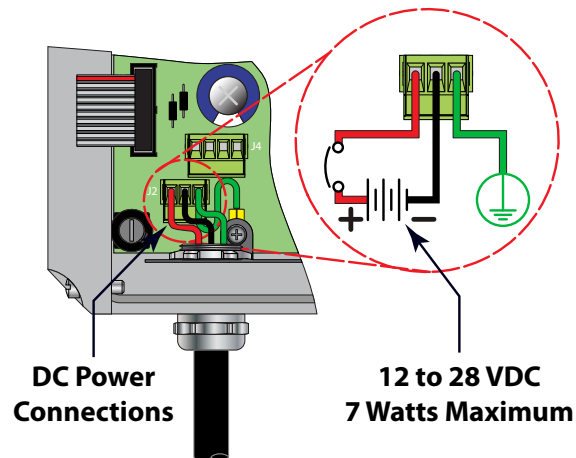

Figure 17: DC power connection
2. Connect the DC power source as illustrated in the schematic in *Figure 17 on page 23*. Wire up to 14 AWG can be accommodated in the DFX flow meter terminal blocks.